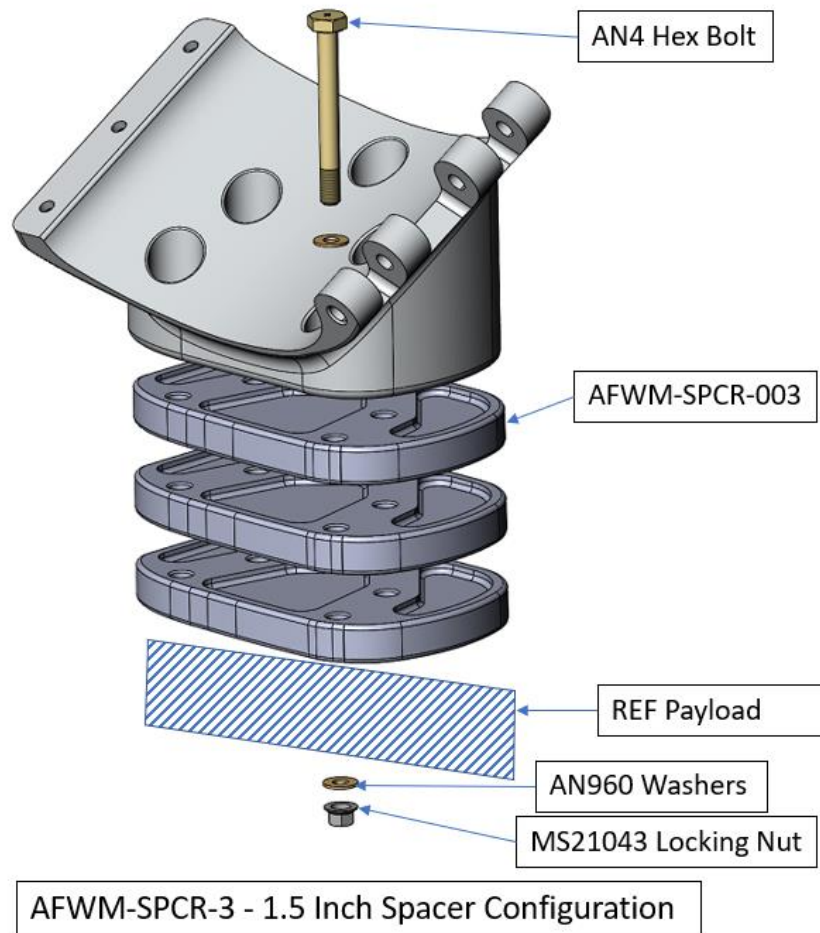

Figure 11. Exploded view of AFWM-SPCR-3 Assembly with Reference Payload Location
3. Refer to Figure 11 for spacer and fastener stack-up. The location of the payload is shown for reference and is to be installed under the AFWM-SPCR-3 Spacers.
3. Refer to Figure 11 for spacer and fastener stack-up. The location of the payload is assumed to be placed underneath the AFWM-SPCR-5 Lower Dovetail Spacer.